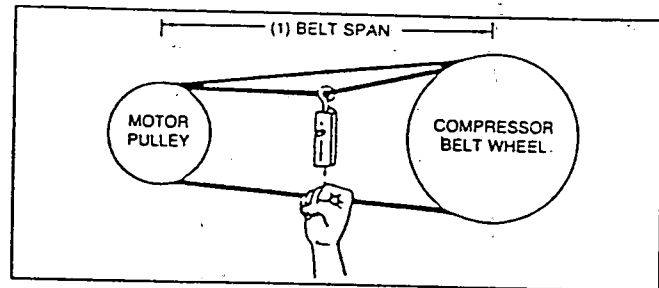

Figure 6.3. Spring Scale Method.
- A. Measure the belt span (t) as shown in Figure 6.3.